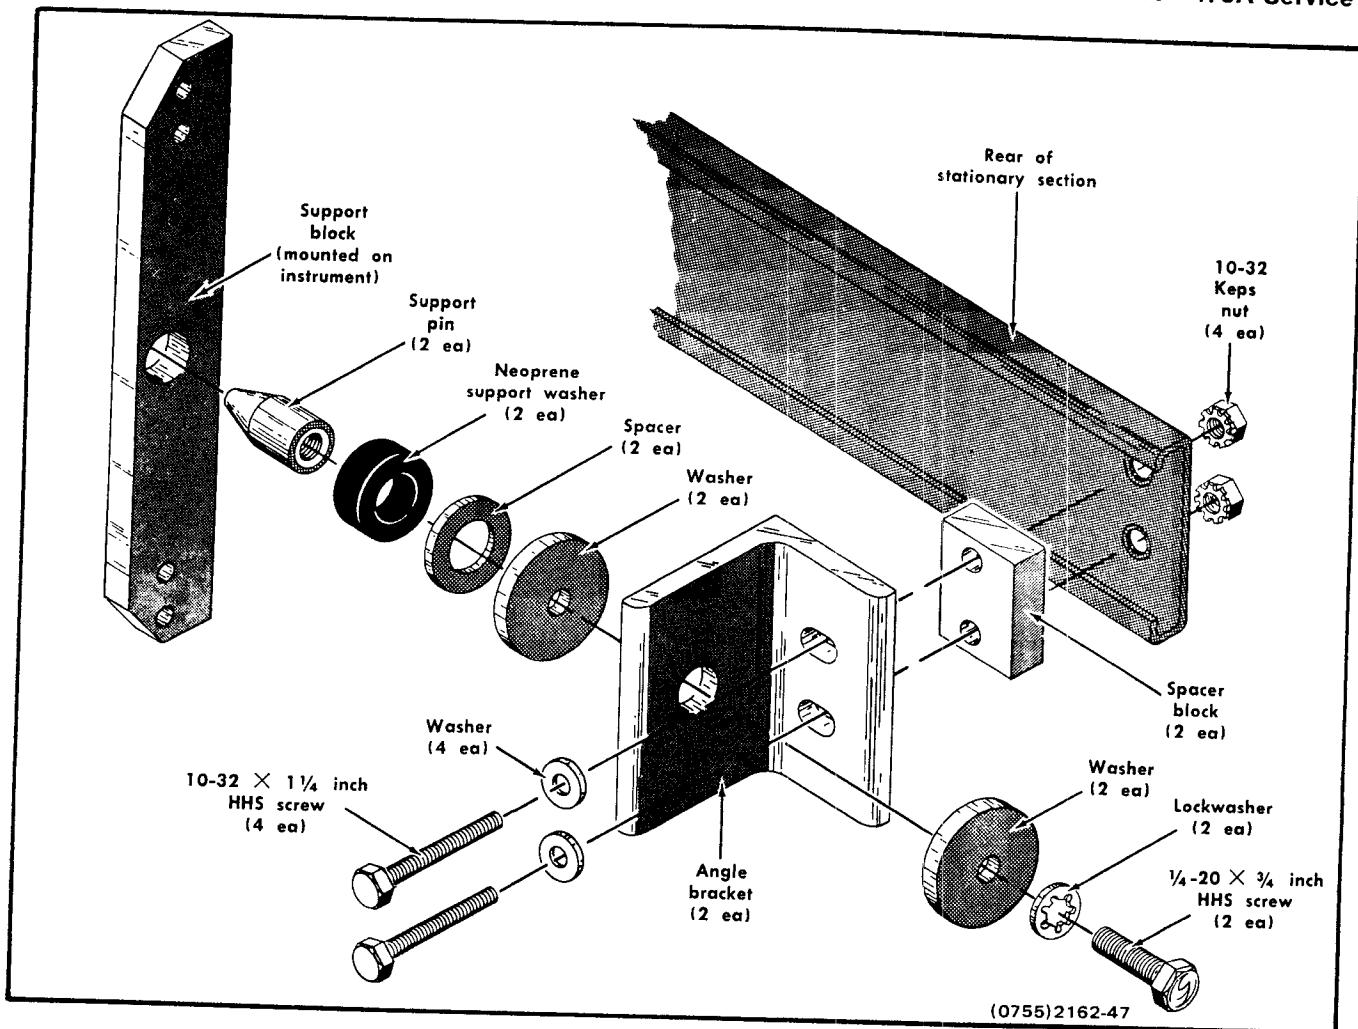
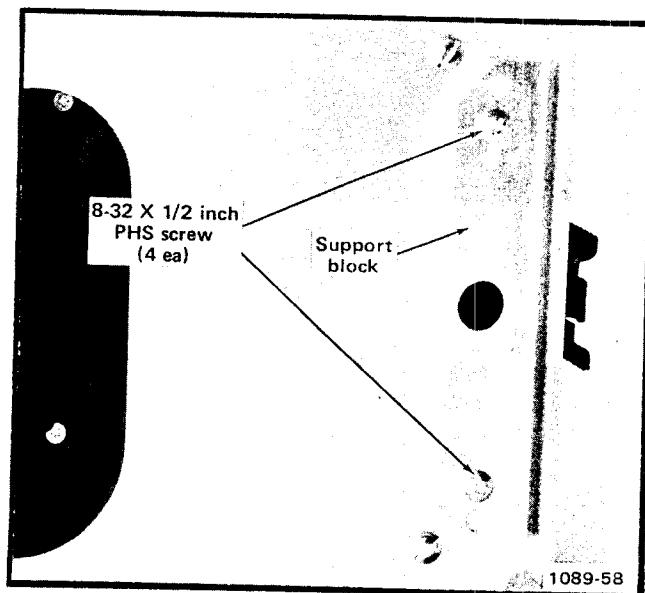

Fig. 4-12. Rear Support kit.
Fig. 4-13. Installing the support block on the instrument.
The following mounting procedure uses the rear support kit (see Fig. 4-12 and Fig. 4-13) to meet the environmental characteristics of the instrument (shock and vibration). Two alternative mounting methods are described at the end of this procedure. However, when mounted according to these alternative methods, the instrument may not meet the given environmental characteristics for shock and vibration.
3. Attach an angle bracket to both rear rails of the rack through the spacer block, stationary section and into the rear rail of the rack. Note that the holes in the spacer block are not centered. Be sure to mount the block with the narrow edge toward the front of the rack; otherwise, the instrument may not slide all the way into the rack. Do not tighten the mounting screws. Fig. 4-12 shows the parts in the rear support kit and the order in which they are assembled.
4. Assemble the support pin to the angle bracket in the order shown in Fig. 4-12. Leave the spacer (washer) off, but install the neoprene washer.
5. Install a support block on each side of the instrument as shown in Fig. 4-13.